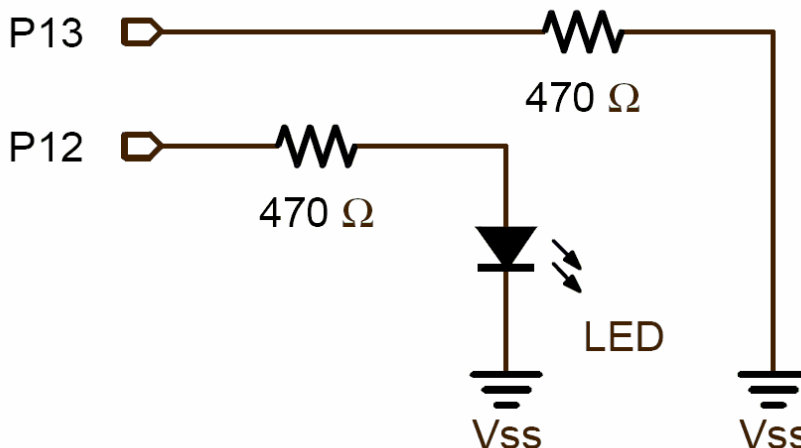
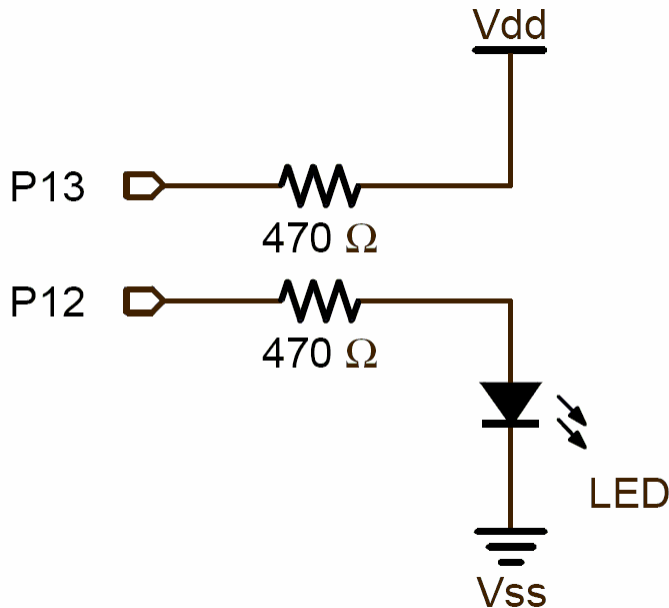

Figure 16: Closed Security Mode Circuit Diagram
Figure 17: Open Security Mode Circuit Diagram
2. **Assemble** the **circuit** shown in Figure 16 on the Board of Education breadboard.
The application waits for the Stamp I/O line P13 to be pulled high as shown in Figure 17. Once line P13 is high, the eb500 module goes into a more vulnerable mode; it becomes visible and switches to open security enabling new trusted relationships. When in open security mode, the LED will blink. By pulling P13 low again as shown in Figure 16, the eb500 will return to closed security mode and visibility will be turned off.
3. Pull Stamp I/O line **P13 high** on the **Board of Education** board by implementing the circuit shown in Figure 17.